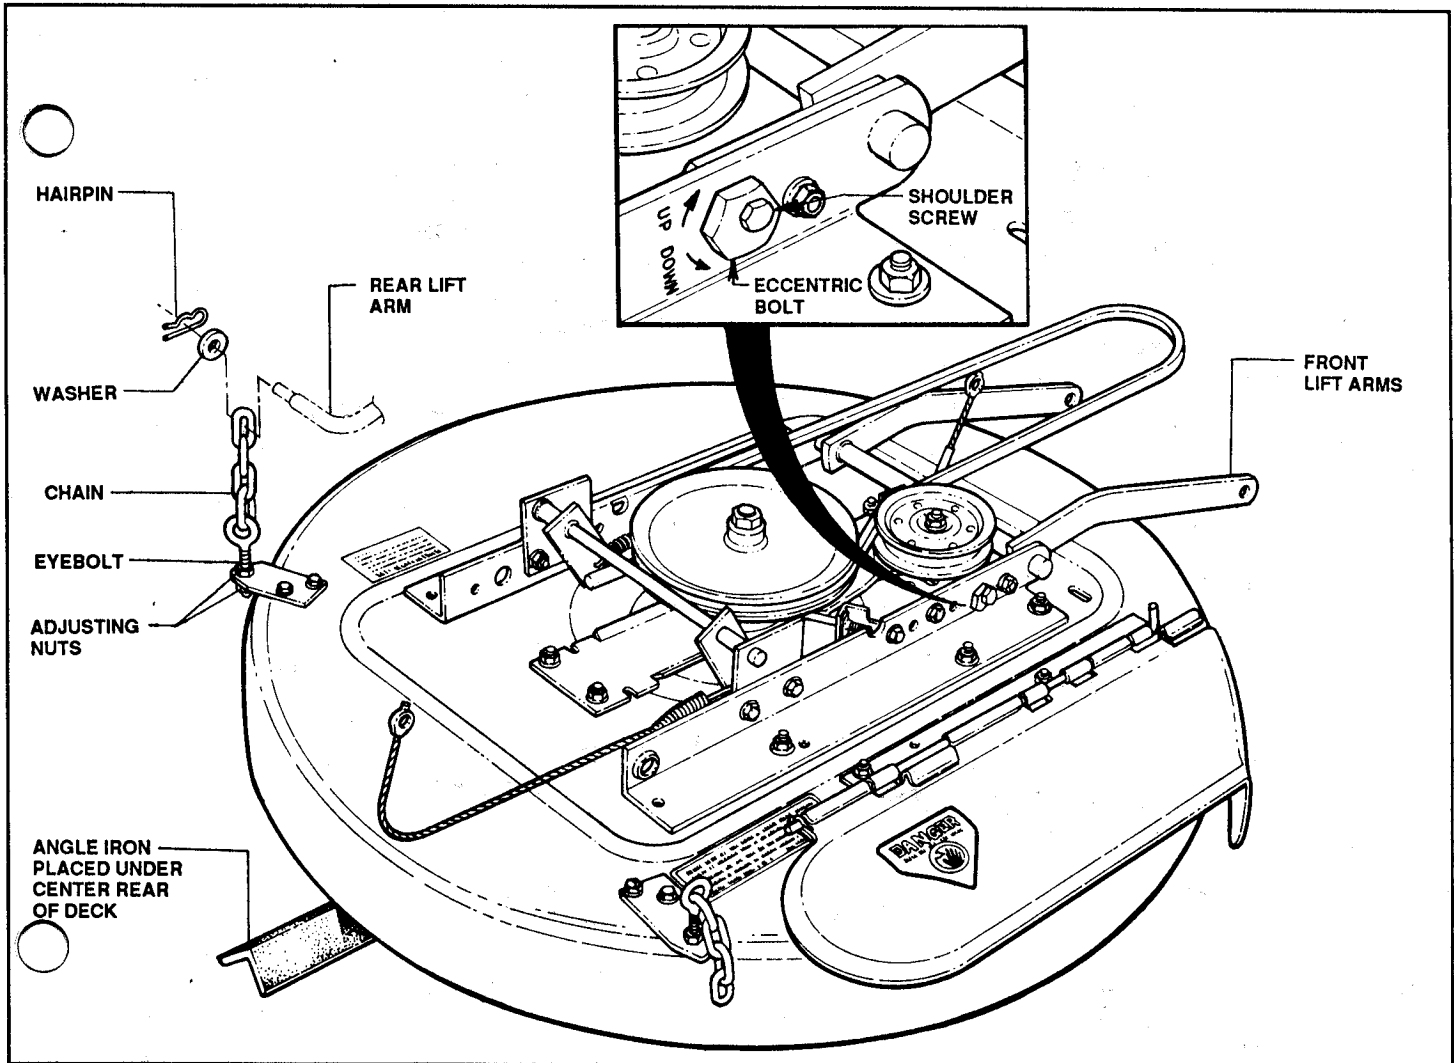

FIGURE 31
- (1) Place a piece of angle iron under center of deck. See Figure 31.
- (2) Pull the pins and remove the CHAINS from the REAR LIFT ARMS.
- (3) Measure distance between the floor and outside center edges of the deck.
- (4) If required, adjust side-to-side level of mower deck by loosening SHOULDER SCREW on side of lift arm ECCENTRIC BOLT. See Figure 31.
- (5) Turn the ECCENTRIC BOLT "UP" or "DOWN" to level deck within 1/8" side-to-side.
- (6) When deck is level, tighten SHOULDER SCREW.
- (7) Re-attach CHAINS to REAR LIFT ARMS.
- (8) If either CHAIN is slack, adjust EYEBOLT until both CHAINS have equal tension. Recheck deck level. See Figure 31.